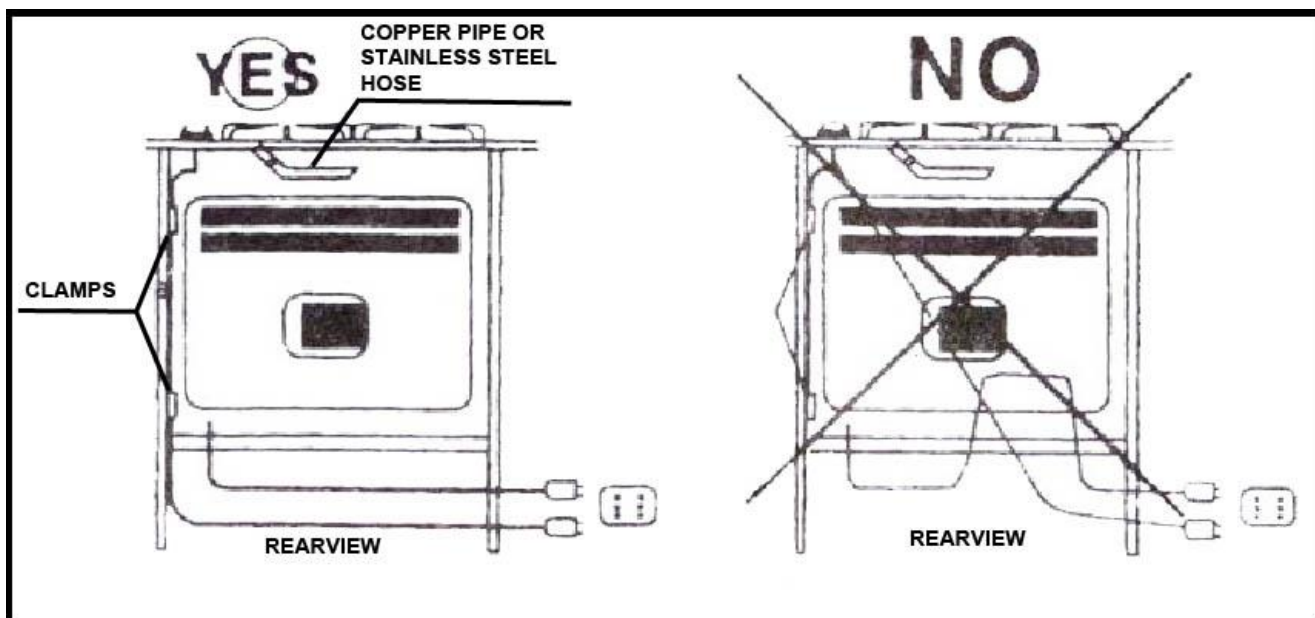

Figure 15
- 4) If installed above a built-in oven, the cooktop cable must not touch the oven below (see Figure 15).